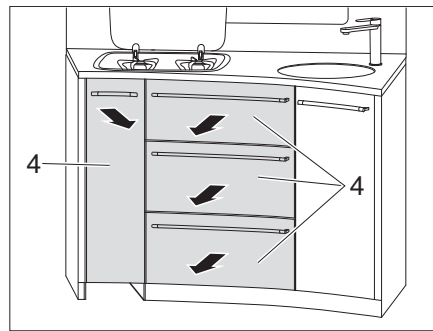

Fig. 116 Removing kitchen drawers
- Remove the kitchen drawers (Fig. 116,4).